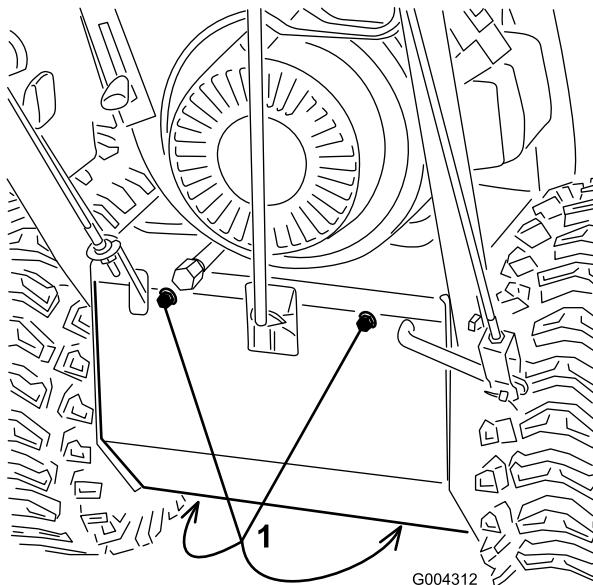

Figure 34
- 3. Remove the 4 flange-head bolts that secure the bottom cover to the frame and remove the cover (Figure 34).
3. Remove the 4 flange-head bolts that secure the bottom cover and remove the cover (Figure 34).
6. Remove the 4 flange-head bolts that secure the bottom cover to the frame and remove the cover (Figure 34).